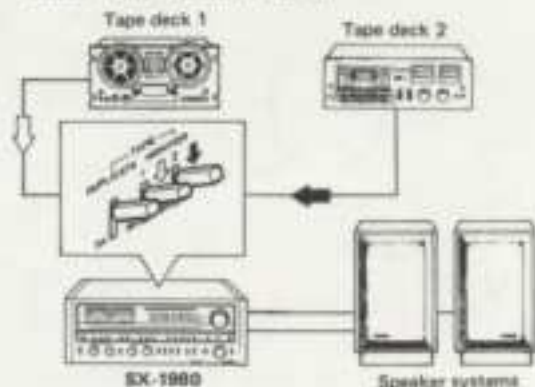

Fig. 23
1. As shown in Fig. 23, set the TAPE MONITOR switch 1 to ON if the tape deck is connected to the TAPE 1 jacks. Set the TAPE MONITOR switch 2 to ON if it is connected to the TAPE 2 jacks.